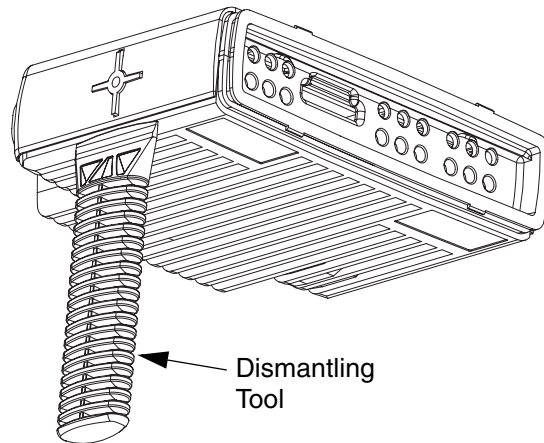

Figure 2-3: Top Cover Removal
1. Insert the dismantling tool in the middle of the radio assembly side groove as shown in Figure 2-3.